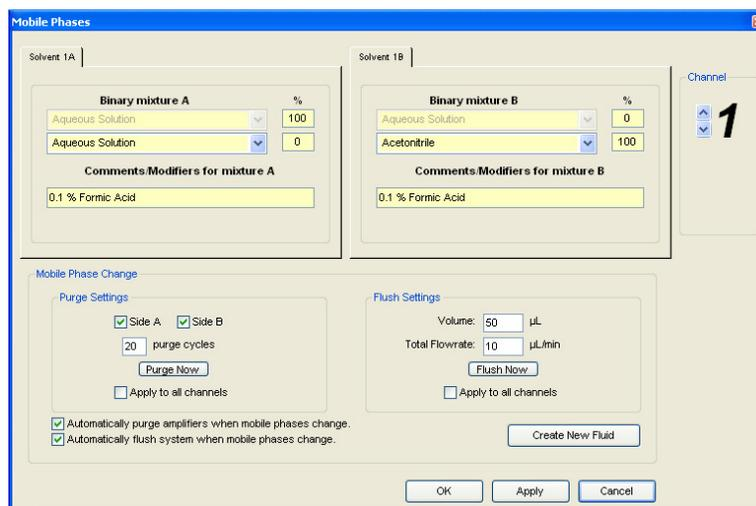

Figure 3-3. Mobile Phases Window – Advanced
- step 8* Click the **More...** button to present the purge and flush settings (Figure 3-3).